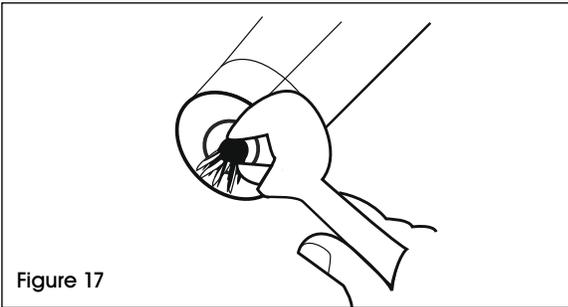

Figure 17
4. Unscrew the orifice. (See Figure 17)